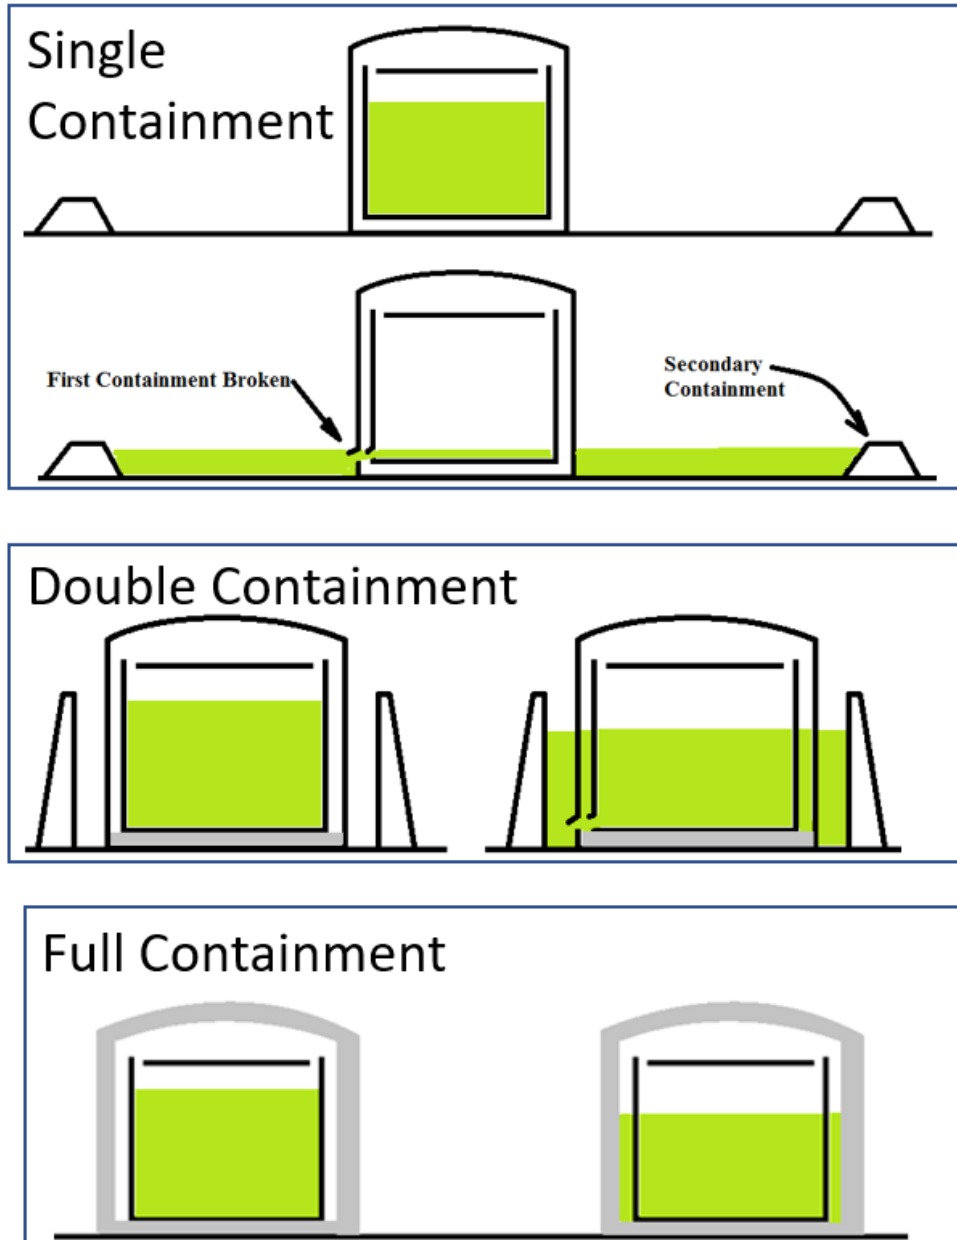

Figure 18: Conceptual graphic of different type of LNG tank containments
A secondary impoundment (dike or berm) is surrounding the tank, as shown in Figure 18 below. If the first containment fails, the carbon steel tank would also fail and the dike or berm would contain the spilled liquid. With a single containment tank if the inner tank fails, a large amount of vapor would be released as the spilled LNG would spill over the large warm surface area, within the impoundment of the dike or berm. See Figure 18.
2. **Double Containment.** A double containment LNG tank is similar to a single containment tank, except that the secondary LNG containment around the tank is very close to the tank as show in Figure 18. Typically, the secondary containment is made of reinforced concrete. The governing codes detail the distance needed, for an LNG tank, to be considered a double containment tank. With a double containment tank, if the inner tank fails, a lesser amount of vapor would be released as the spilled LNG would spill over a smaller warm surface area. See Figure 18.
3. **Full Containment.** A full containment tank is the most expensive of the three types of tanks. It is essentially a cryogenic tank within a cryogenic tank. Typically, the outer tank is made of pre or post stressed concrete, which typically also has a reinforced concrete roof. With a full containment tank if the inner tank fails, no LNG or vapor would be released as the spilled LNG and its vapor are contained by the outer tank. The outer tank typically has a liner to contain the LNG and vapor inside the concrete. See Figure 18.